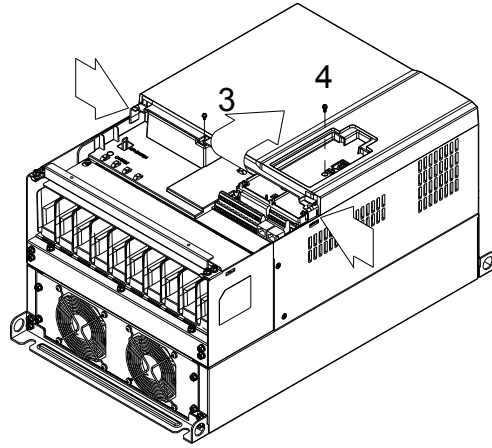

Figure 2
- Loosen screw 1 and screw 2, press the on the right and the 2. (Figure 2) Loosen screw 3, press the tab on the right and the left to remove the cover. Press on top of digital keypad to properly remove it. Screw 1, 2 『Torque :12~15kgf-cm (10.4~13lb-in)』